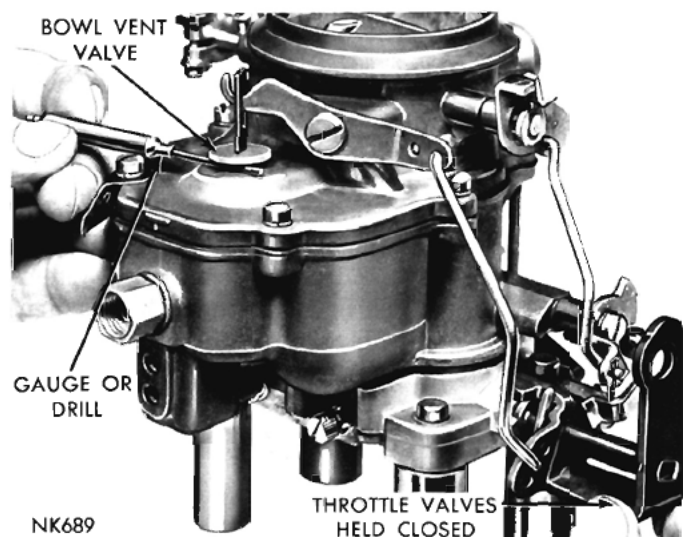

Fig. 12—Measuring Bowl Vent Opening
- (1) Back off the idle speed adjusting screw. Open the choke valve so that the fast idle cam allows the throttle valves to be completely seated in the bores.
- (2) Be sure the pump operating rod is in the medium stroke hole in the throttle lever, and that the bowl vent clip on the pump stem is in the center notch.
(3) Close the throttle valves tightly. It should be just possible to insert a  $\frac{1}{16}$  inch drill between the bowl vent and its seat, as shown in (Fig. 12).